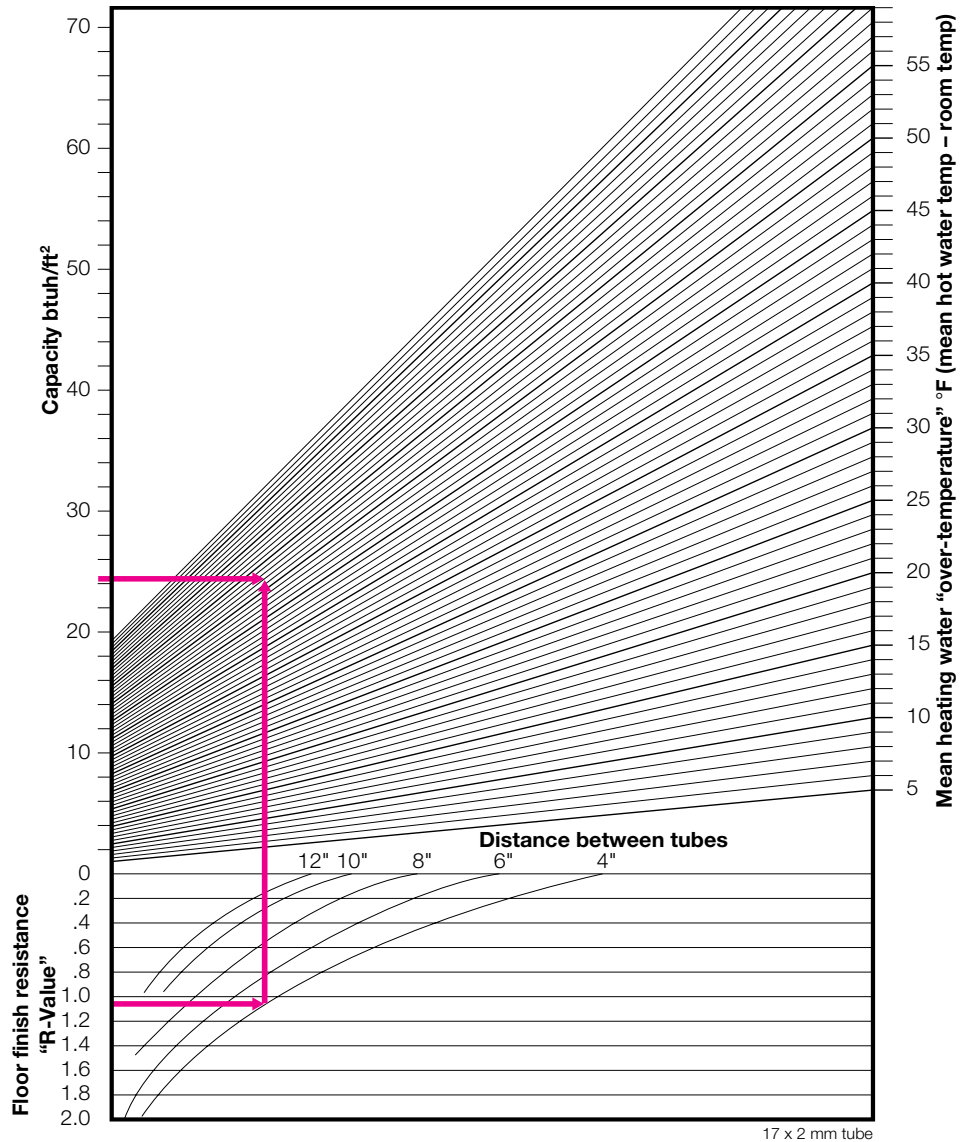

Fig. 4.5: REHAU RFH performance graph.
(B) Using the performance graph shown in Figure 4.5 (or performance graph appropriate for your design) perform the following: